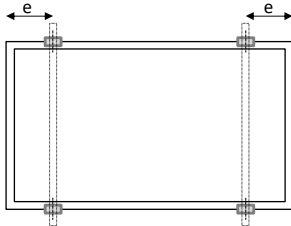

Fig. A1: Clipping position on long frames
**Table.A1 Design load by clipping on long frames (see Fig. A1)**
**Table.A1-1 Test load by clipping on long frames (see Fig. A1)**